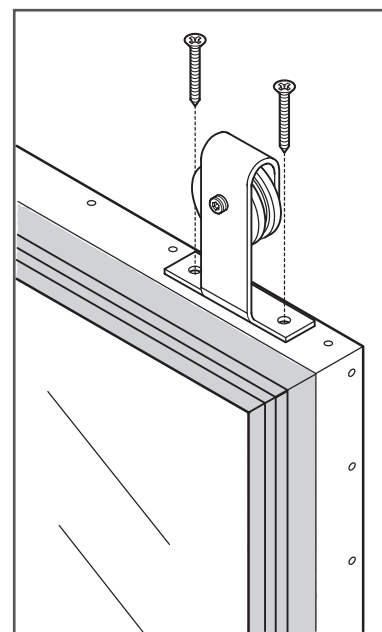

Figure 3
5. Attach the hanger to the door using two fastener screws (C.). Repeat the process on the opposite end of the door (Figure 3).